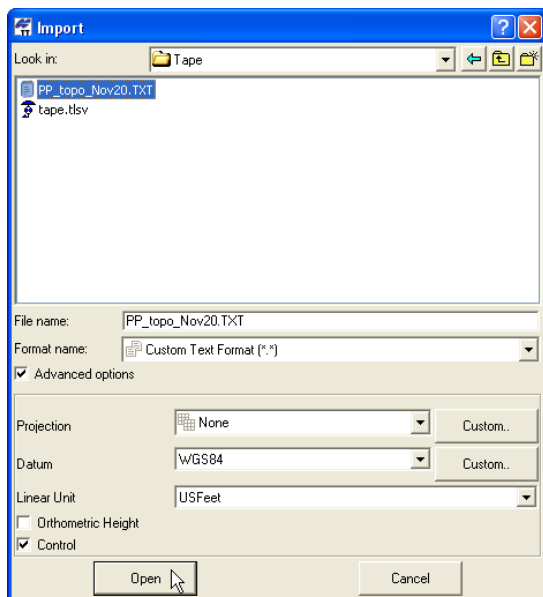

Figure 3-5. Import Custom Format File
4. Select the desired *Advanced* options (Figure 3-5 on page 3-9):